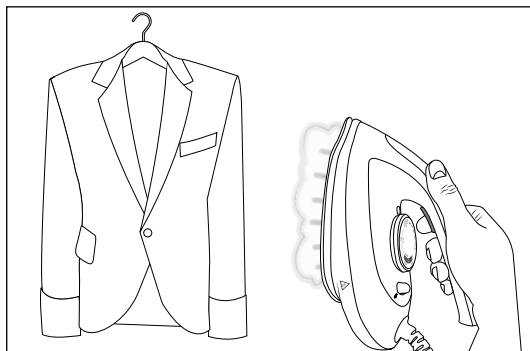

Fig. 10
- 5) Hold the steam iron in a vertical position and press the steam button **2** (see fig. 10).